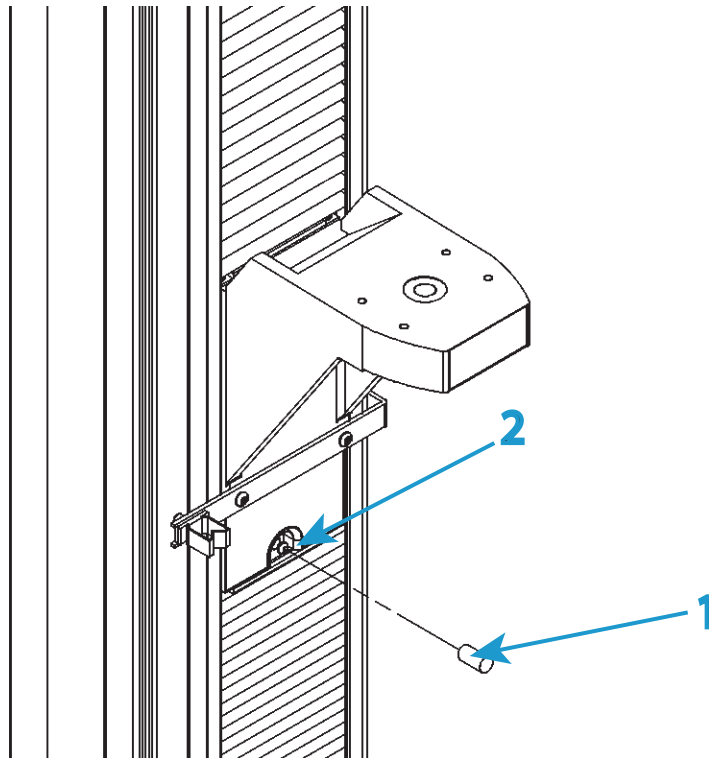
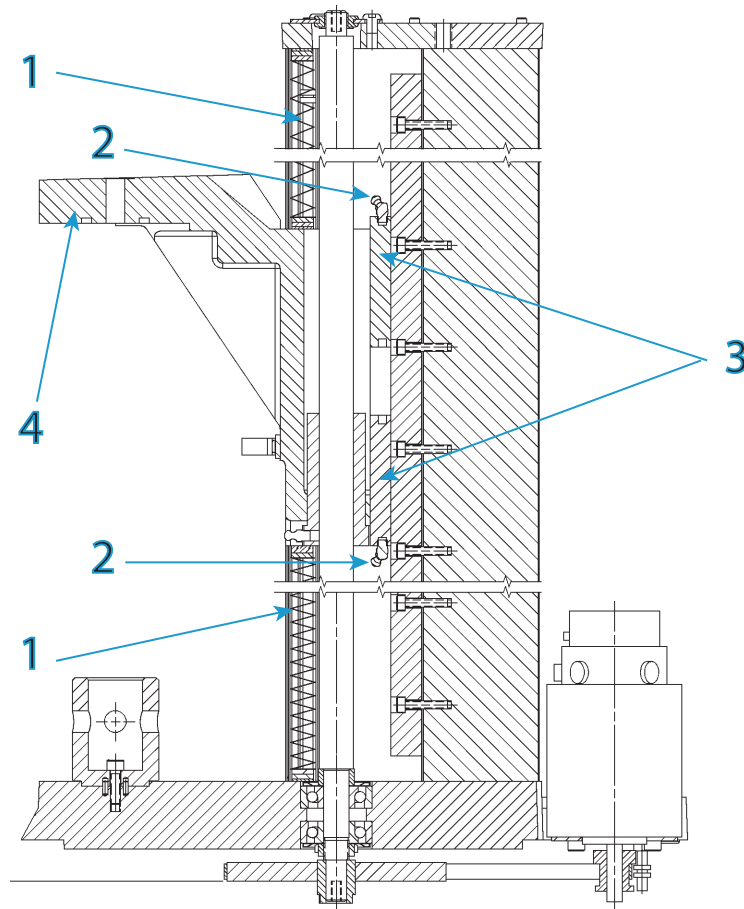

Figure 24. Ballnut lubrication
Figure 25. Linear guide carriages lubrication
This procedure applies to model 34SC-5, refer to Figure 24 on page 120 and Figure 25 on page 121.
Legend for Figure 24
Legend for Figure 25
1. Ensure that the power switch is in the Off (0) position and disconnect the power cable from the power source. Verify that no LEDs are illuminated on the frame control panel.
6. Detach the ballscrew covers from the crosshead and slide them away from the crosshead. Refer to Figure 25 on page 121 to locate the grease nipple on each carriage.